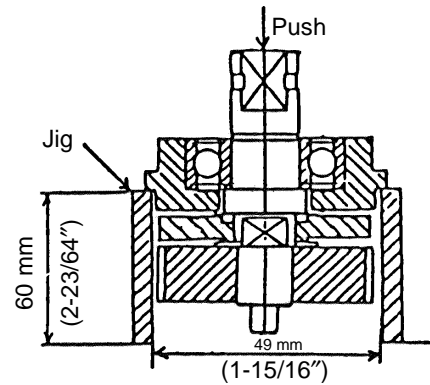

Fig. 1
- (4) Separate the Spindle Gear ② (②) from the Bearing Holder ③ (③) :
As illustrated in Fig. 1, support the Bearing Holder ③ (③) with an appropriate tubular jig, and push down on the end of the Spindle Gear ② (②) with a hand press to separate the Spindle Gear ② (②) from the Bearing Holder ③ (③).
- (5) Remove the Armature Ass'y ②⑥ (②⑥) :